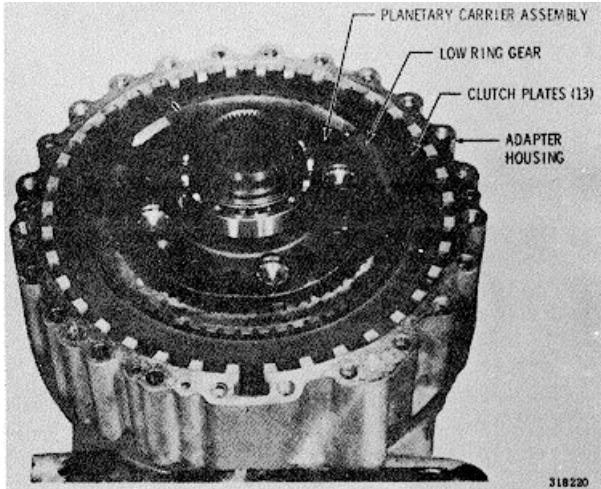

Fig. 7-19. Low planetary carrier, ring gear and clutch
(4) Beginning with an external-tanged clutch plate, alternately install seven external-tanged and six internal-splined low clutch plates (refer to Fig. 7-19).
(1) Install the low planetary carrier by carefully aligning the teeth of the four pinions with those of the low ring gear (fig. 7-19).